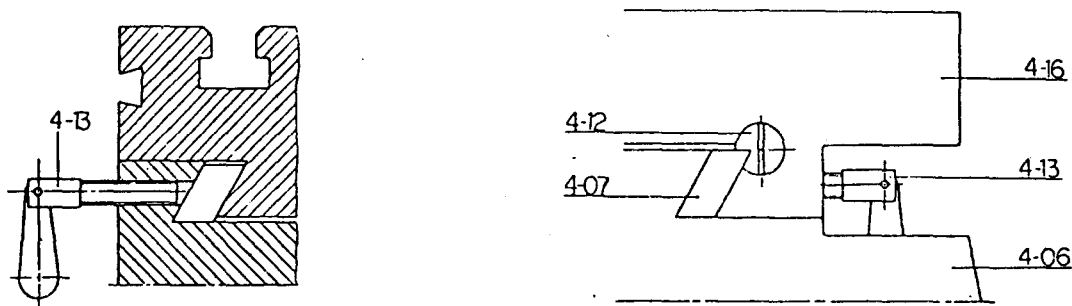

Fig. 4
- (1) When milling left and right, it is advisable to lock the fore and aft table travel to insure the accuracy of your work. To do this, tighten the small leaf screw (4-13) located on the right side of the table base (Fig. 4).
- (2) To tighten the left and right travel of the table for fore and aft milling, tighten the two small leaf screw (4-13) on the front of the table base (Fig. 4).
- (3) Adjustable travel stops are provided on the front of the table for control of cross travel and the desired milling length.